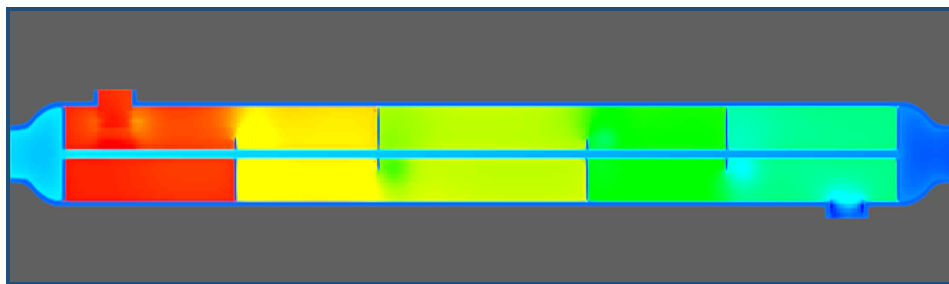

Figure 12.2: Temperature contour of counter flow heat exchanger
5. Analyze the results using the Ansys CFD post to get the contour as shown in Figure 12.2.